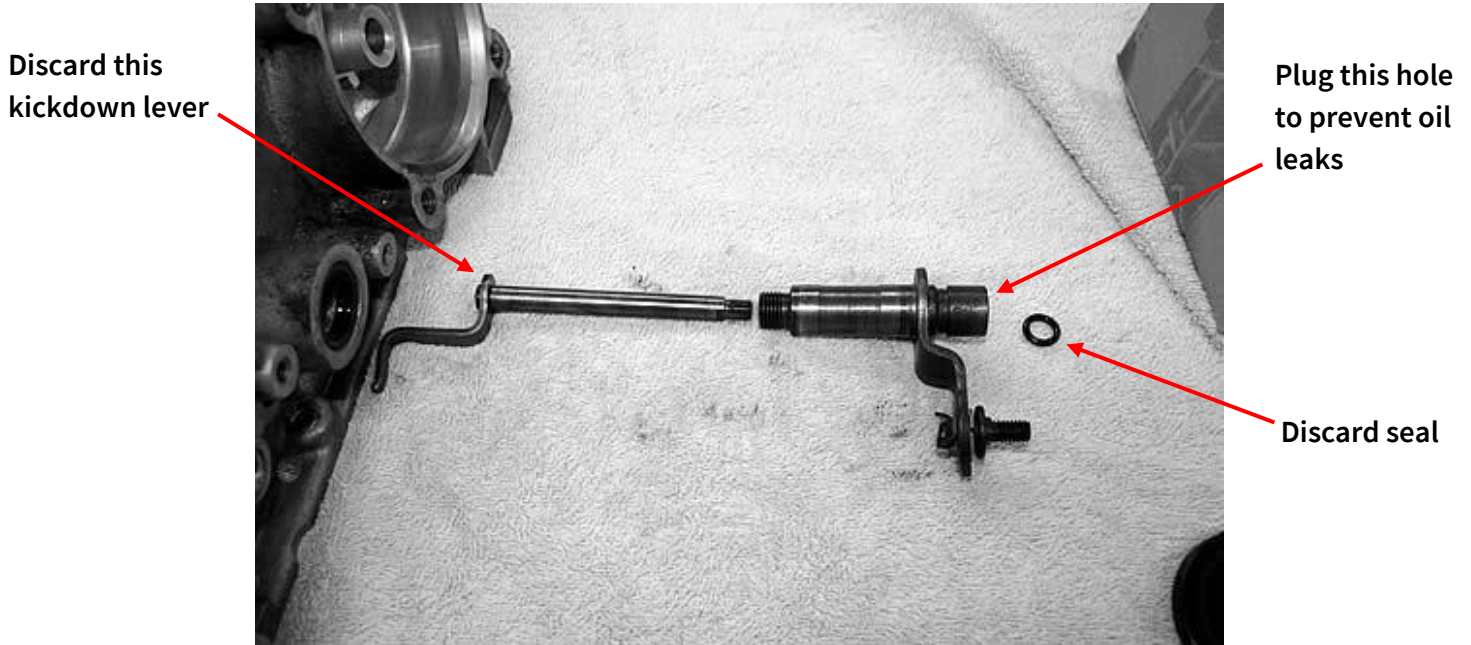

Figure 3
11. Install the brake valve body. As the valve body goes in, engage the manual valve with the inner control lever. The downshift linkage arm can be removed and discarded. Ensure the centre of the manual lever has been plugged or filled (as stated in figure 3).